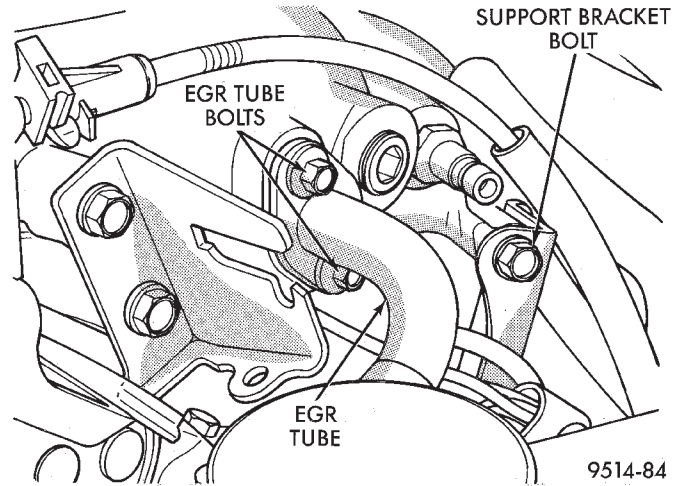

Fig. 12 EGR Tube at Intake Manifold
- (1) Remove screws attaching EGR tube to intake manifold (Fig. 12).